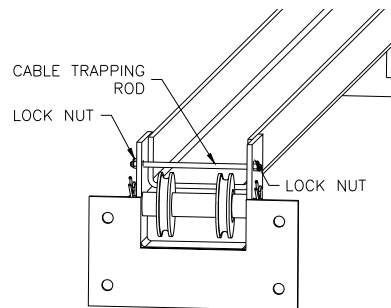

Fig. 5-Cable Trapping
- 15) At the upper beam sheave locations disassemble and reassemble the cable trapping rod to install the cable onto the sheave as shown in **Fig 5**. At base of columns, bottom sheave will need to be removed then reassembled.